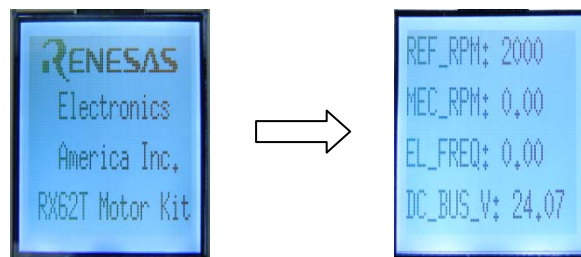

Figure 3 LCD Screen after Step 3
- The LCD will display the logo screen again and after two seconds will switch to the first operating page showing: "REF\_RPM", "MEC\_RPM", "EL\_FREQ" and "DC\_BUS\_V" as shown in Figure 3.